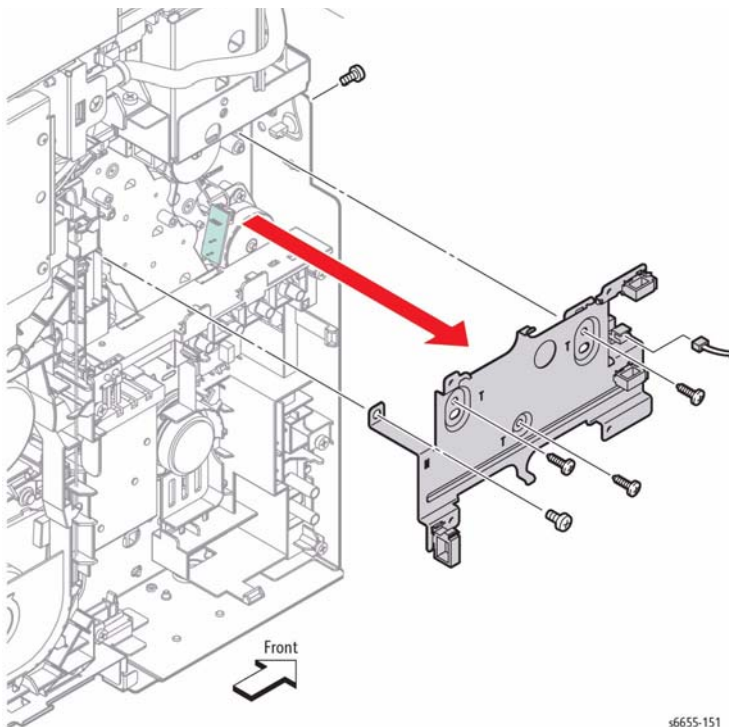

Figure 1 Remove the MCU Plate
5. Refer to Figure 1 to locate and remove three screws (silver, tapping, 8 mm) and two screws (silver, 6 mm) that attach the MCU Plate to the printer and remove the plate.